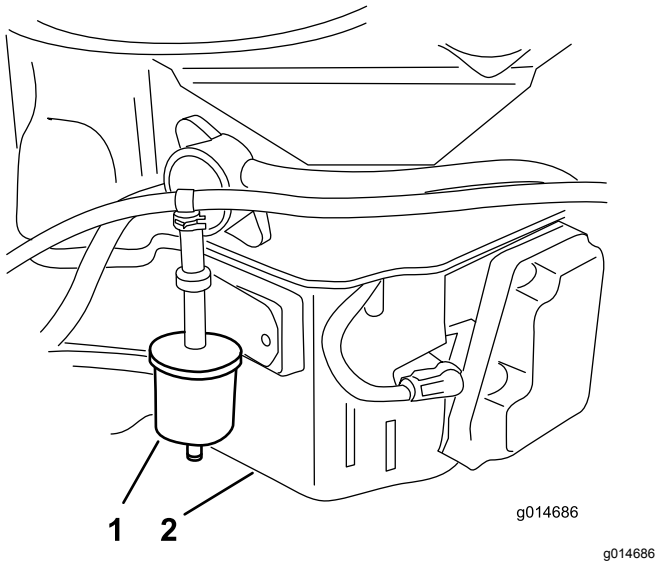

Figure 33
3. Remove the existing fuel-vent filter (Figure 33).